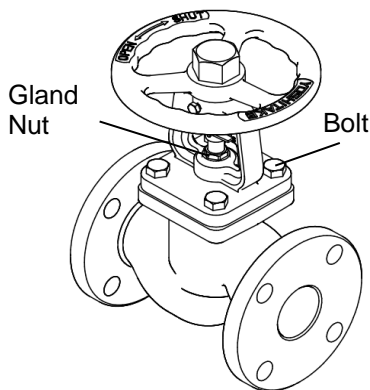

Figure 1
- (1) Store the product indoors in a dust free, low humidity, dry and ventilated environment.
- (2) Installation should be conducted by suitably trained personnel, wearing protective head, eye, hand and foot protection.
- (3) To install the product, check the direction of the product so that the fluid flowing and the arrow marked on the product are in the same direction.
- (4) In order to avoid excessive piping stress in the valve, carefully align the center of the valve and the connected pipe so that they will be in line.
- (5) In case that the product is expected to be frozen, be sure to conduct freezing prevention measures or water draining treatment (after use).
- (6) The valve can be installed in both horizontal and vertical pipes, but the position must be from upright to sideways. Do not install the valve upside down.
- (7) To use the valve for high-temperature fluids (approximately 200-degree C or higher), raise the valve temperature to the operating temperature, and then tighten the bolts shown in Figure 1 additionally. For additional tightening, ensure that the valve is open, and tighten the bolts in a diagonal sequence using a torque wrench. Tightening should be done gradually and evenly, with increasing bolt torque from a low torque to the tightening torque as listed in the table below.